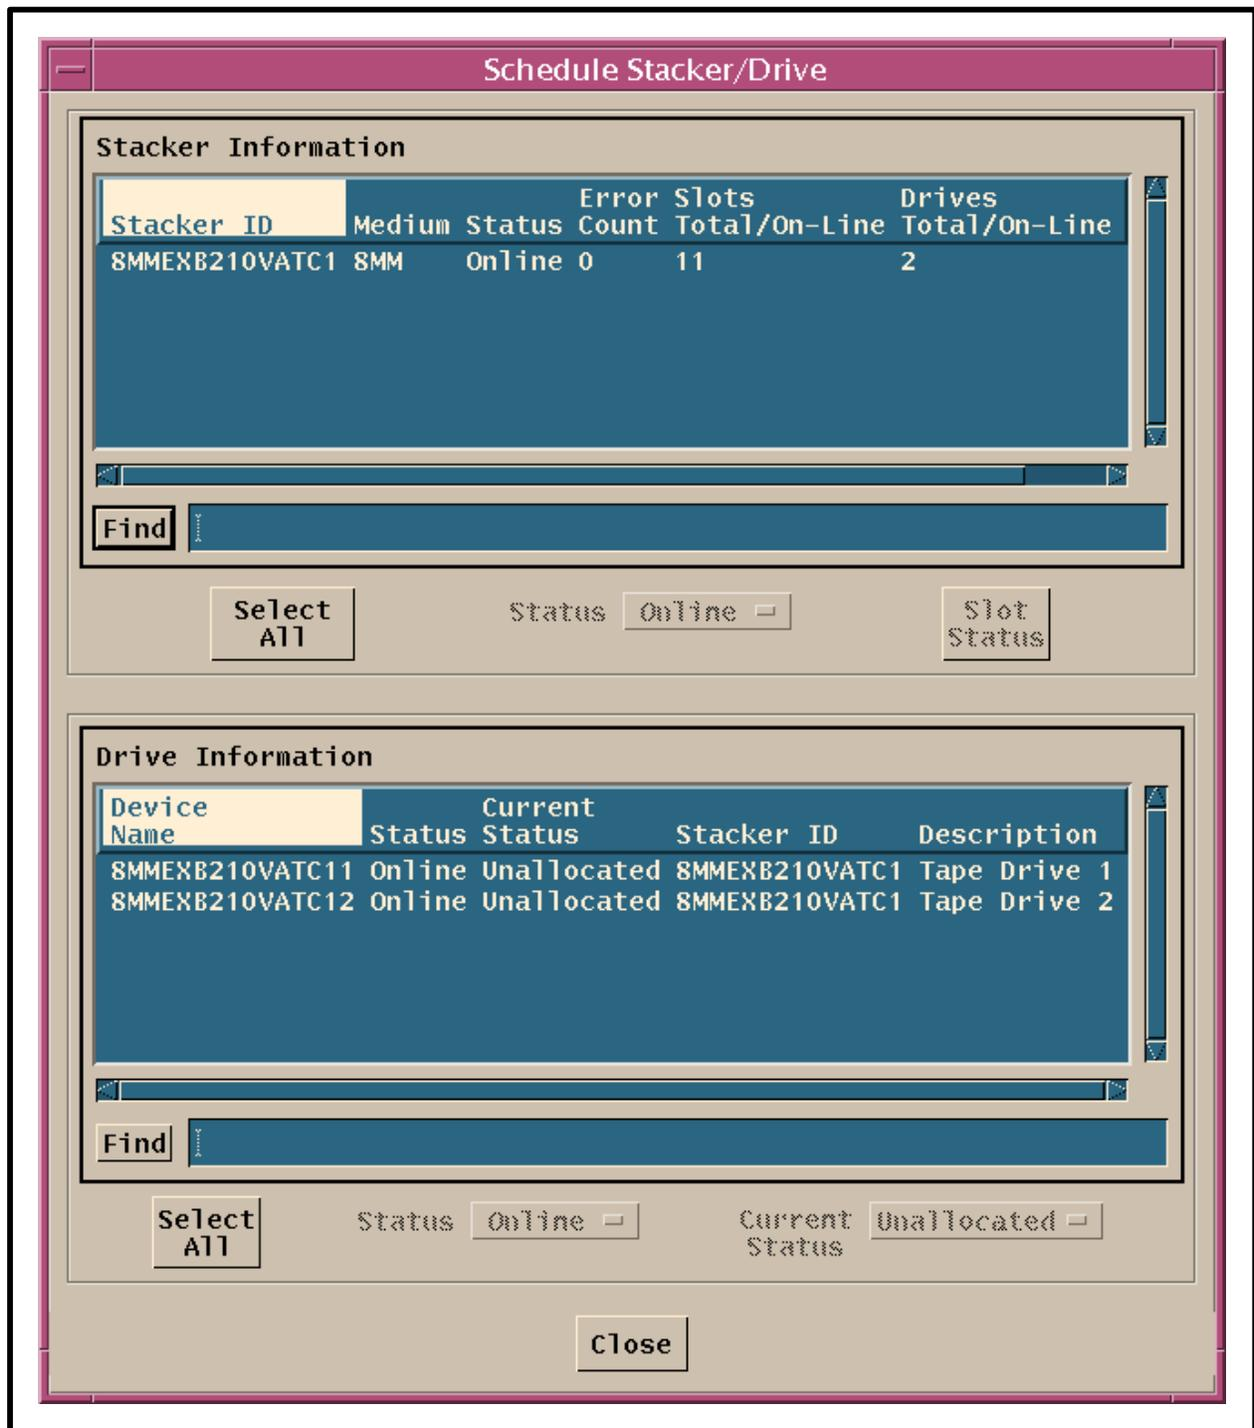

Figure 17. Schedule Stacker/Drive Window (Storage Management Control GUI)
- The **Schedule Stacker/Drive** window (Figure 17) is displayed.
- 7 Observe the information displayed in the **Stacker Information** window near the top of the **Schedule Stacker/Drive** window (Figure 17).
- 9 Observe the information displayed in the **Drive Information** window near the bottom of the **Schedule Stacker/Drive** window (Figure 17).